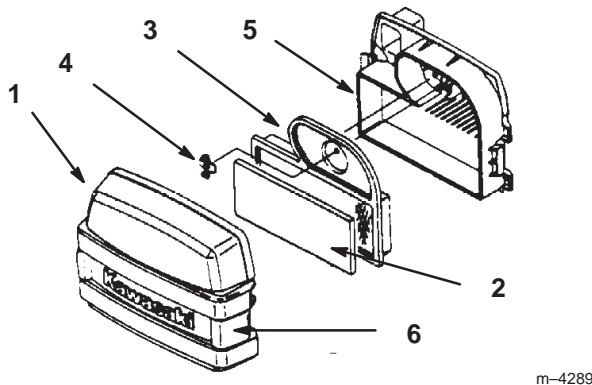

Figure 31
2. Clean around the air cleaner to prevent dirt from getting into the engine and causing damage. Unlatch two side latches and remove the air cleaner cover (Fig. 31).
3. Carefully remove the foam element from the paper element (Fig. 31).
4. Unscrew the wing nut and remove the paper element (Fig. 31).
1. Carefully slide the foam element into the paper air cleaner element (Fig. 31).
2. Place the air cleaner assembly onto the air cleaner base and install wing nut (Fig. 31).
3. Install the air cleaner cover and latch (Fig. 31).